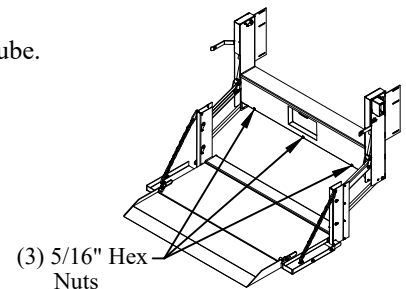

Figure 8: Box cover location.
1. **Remove** the box cover by removing the 5/16" nuts (Figure 8).